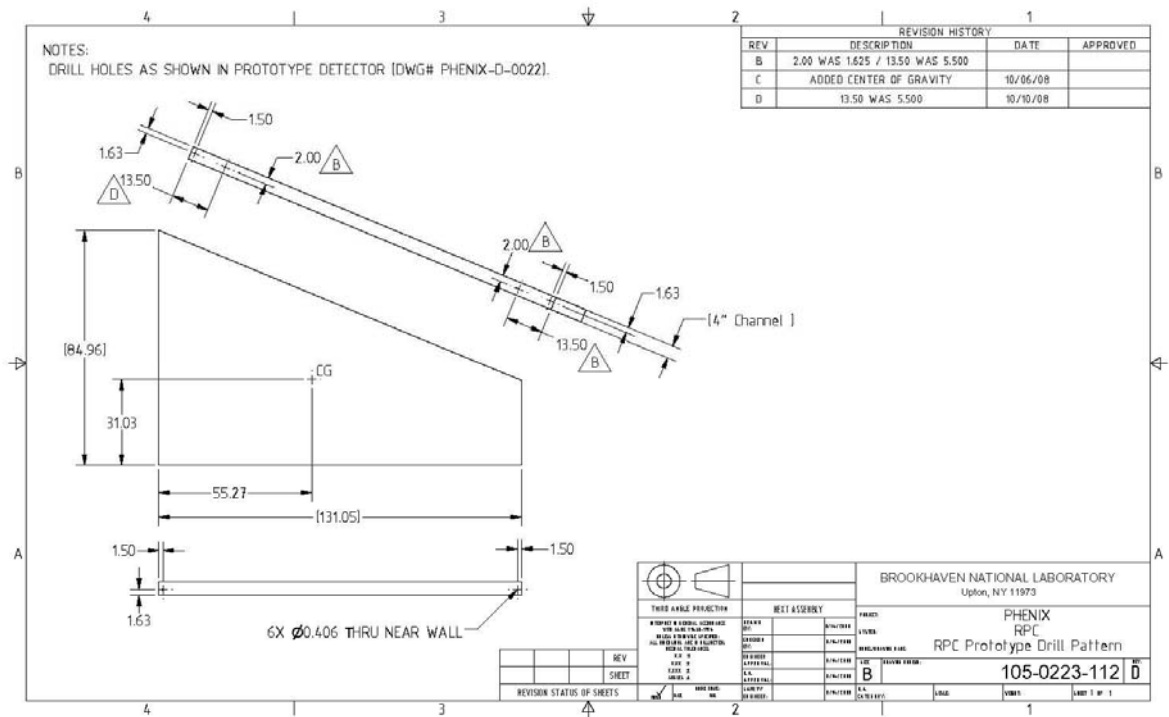

Figure 2: Prototype RPC2 Center of Gravity
- Prepare slings to orient RPC2 during installation. (See figure 2 for center of gravity info).